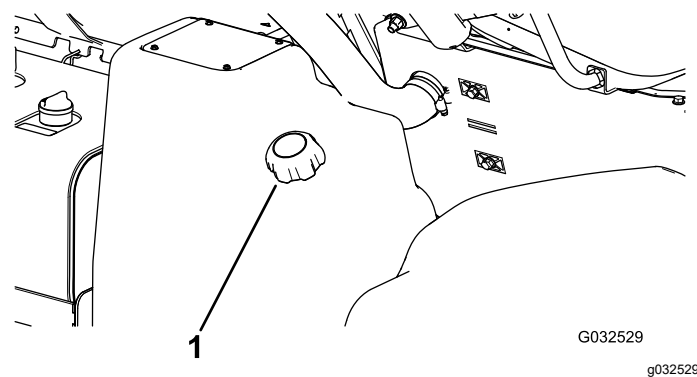

Figure 19
- 2. Clean the area around the fuel-tank cap (Figure 19).